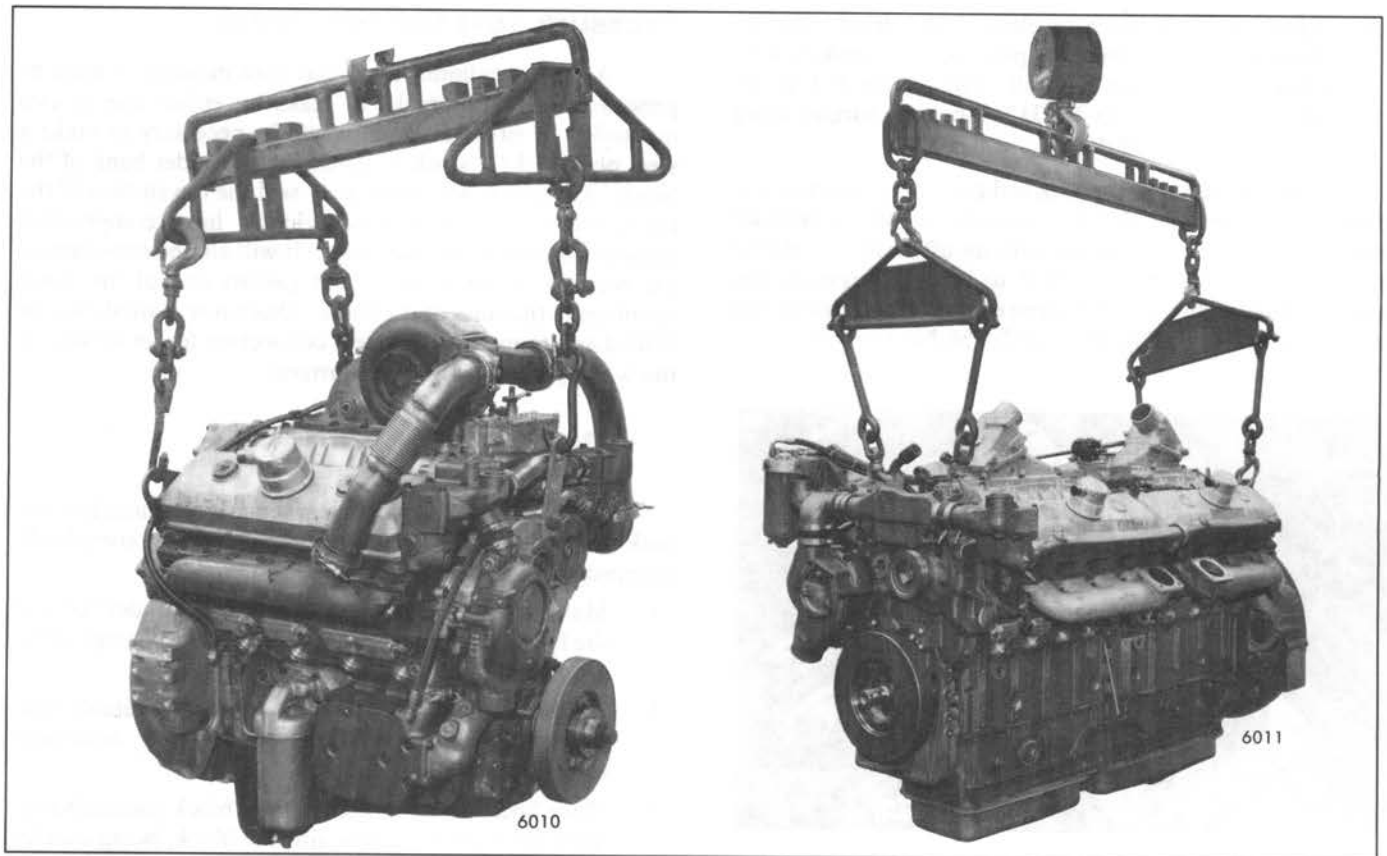

Fig. 3 – Lifting Engine with Spreader and Sling
16. Use a spreader bar with a suitable sling and adequate chain hoist to lift the engine from its base (Fig. 3). To prevent bending of the engine lifter brackets the lifting device should be adjusted so the lifting hooks are vertical. To ensure proper weight distribution, all engine lifter brackets should be used to lift the engine.